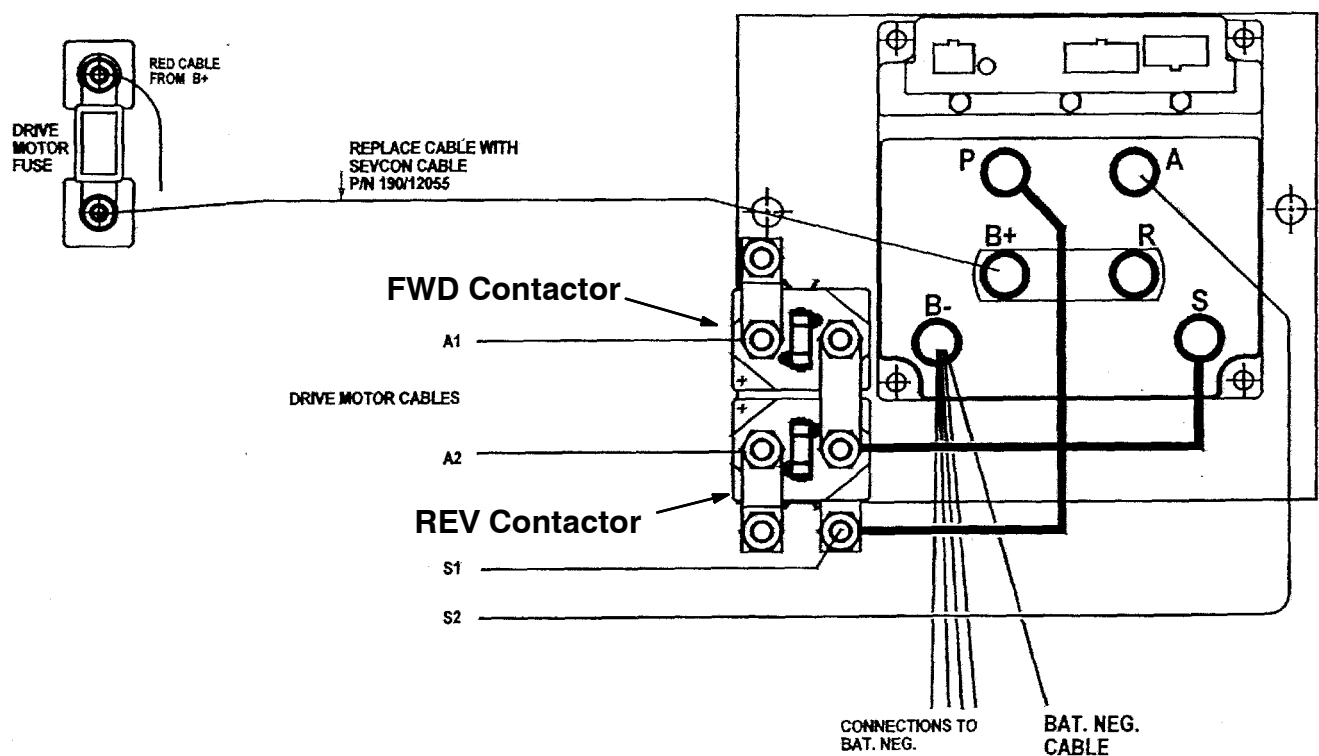

FIG. 2 - CONTROL BOX GROUP
WIRING POWERPAK PANEL: (Refer to Fig. 2)
1. Connect the motor cables A1, A2, S1 and S2 as shown in Fig. 2.
2. Replace the positive battery cable from the drive motor fuse with cable part number 190/12055. Connect the cable as shown in Fig. 2.
3. Connect the negative battery cable and all negative cables to the "B-" stud on the Powerpak, as shown in Fig. 2.